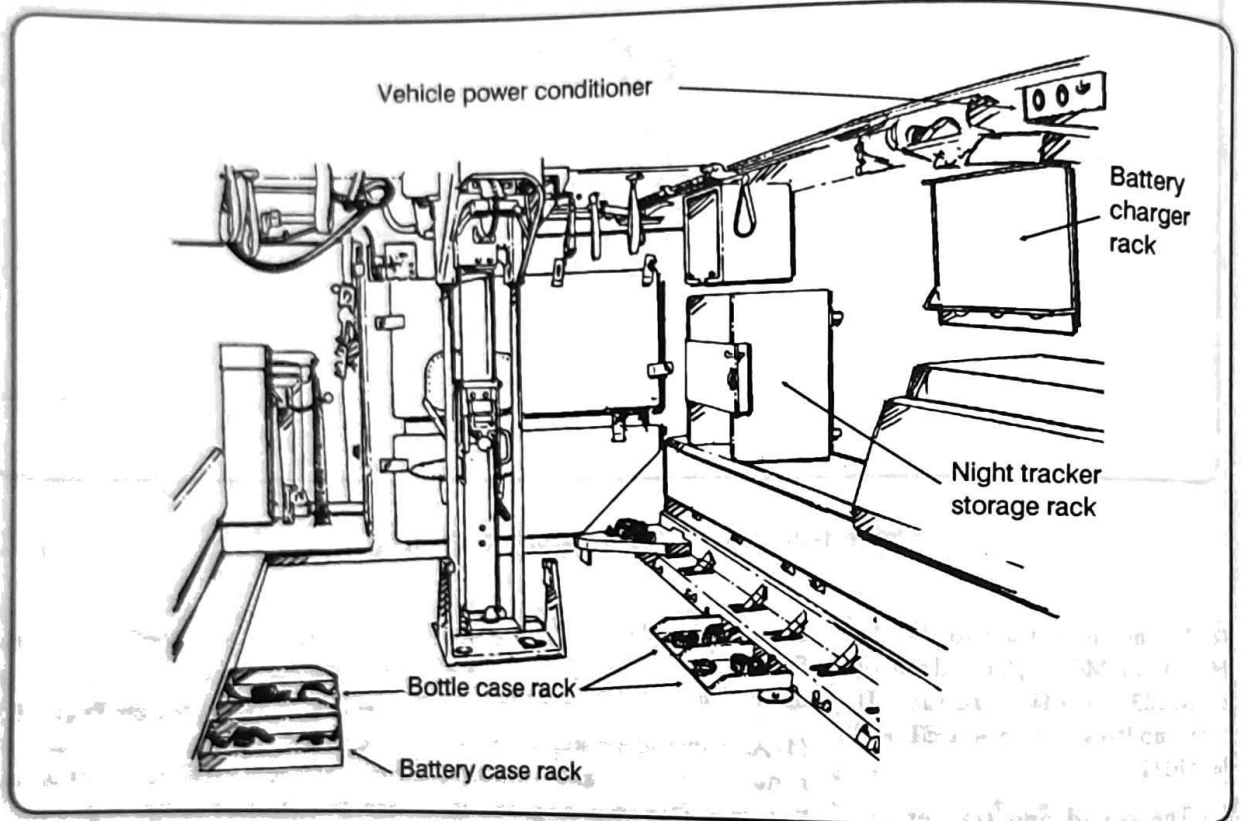

Figure 1-12. Vehicle storage kit.
c. **Vehicle Storage Kit.** The kit (Figure 1-12) is installed in all M113 APCs assigned to mechanized infantry squads. It consists of the following night tracker support equipment: